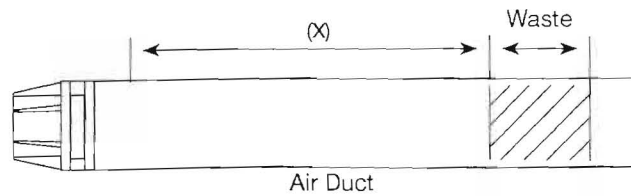

Fig. 4
3. Taking the air intake (outer pipe), mark dimension 'X' as shown (Fig. 4). Measure the length of waste material, and transfer the dimension to the exhaust pipe (inner pipe (Fig. 4).